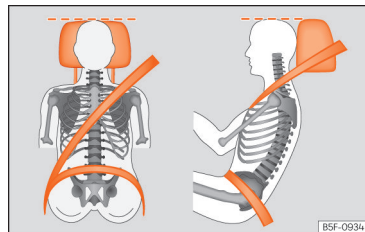

Fig. 19 Correct belt web and headrest positions
your head and under no circumstances below eye level. Keep the back of your neck as close as possible to the headrest »» Fig. 19.
- Adjust the seat lengthwise so that you can fully step on the pedals with your knees slightly bent and there is a distance between the knee area and the instrument panel of at least 10 cm (4 inches) »» Fig. 19.